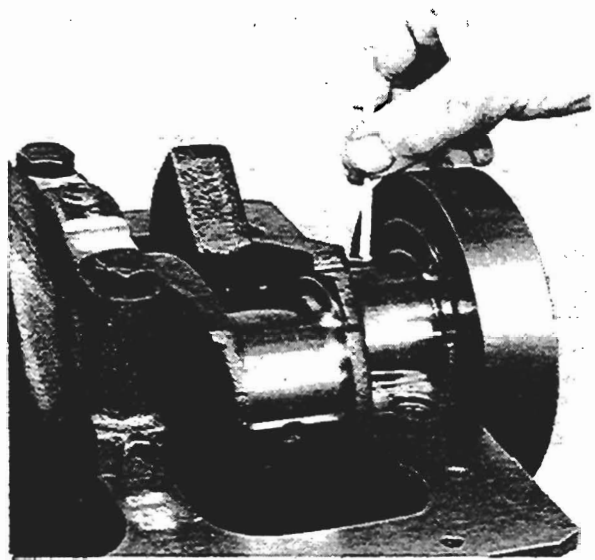

Fig. J3
3. The two top half thrust washers can be removed by the use of a suitable piece of wood to push them out when the crankshaft is turned (see fig. J3).